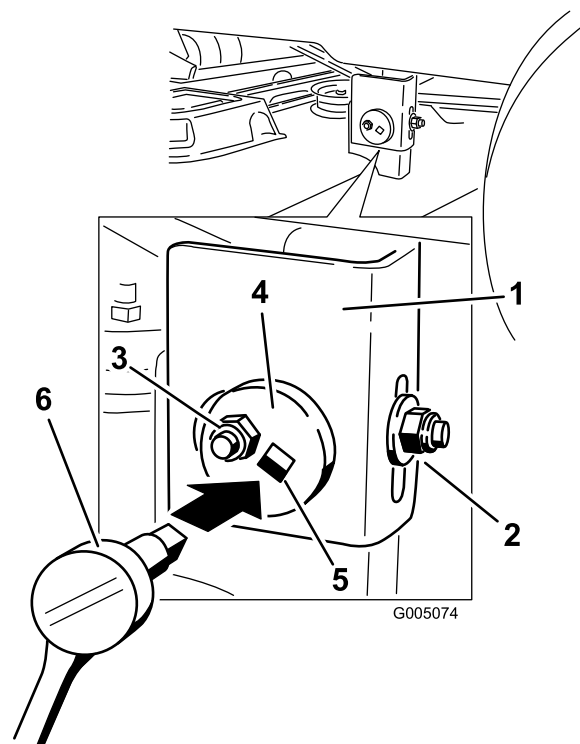

Figure 40
7. At the left side of the machine. Loosen, but do not remove, the rear locking nut on the hanger bracket (Figure 40).
8. Loosen the side locking nut on the hanger bracket just enough to allow the centric plate to be adjusted (Figure 40). Use a 3/8 inch drive extension on a socket wrench to manipulate the centric plate. Use the wrench to reposition the height of the mower deck and adjust to the desired height.
9. Stop the deck at the adjusted position and tighten the side locking nut on the hanger bracket to hold the new position (Figure 40).